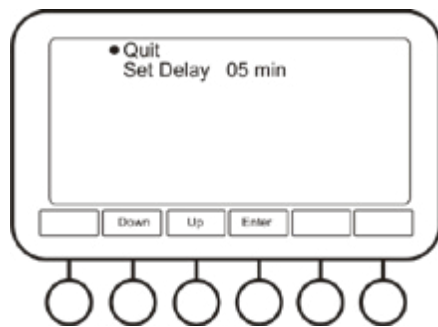

Fig. 10. Auto Lock Delay menu
4.9.3.2.2 **Auto Lock Delay** (fig. 10). After being idle for several minutes, the incubator locks the buttons (except the **Lock** button). This timer allows to change the idle time.